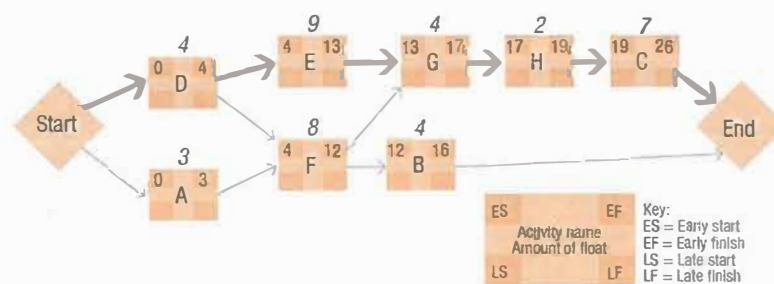

FIGURE 8.12 Forward pass through network diagram
Let's start with the forward pass. You need to calculate through the activities from <Start> to <End>, determining early starts and early finishes for all activities. This example uses zero as the early start for the first activity. Use figure 8.12 to walk through this.
- It is important to look at path convergence (where paths meet). To calculate the early start and the early finish in a forward pass, you must account for all the paths that lead into that activity (notice activities F and G in figure 8.12).
- The same concept applies to the backward pass. To calculate the late finish and late start you need to consider all paths that flow backward into an activity (activities D and F in figure 8.12).
1. In figure 8.12, paths converge at activities F and G.